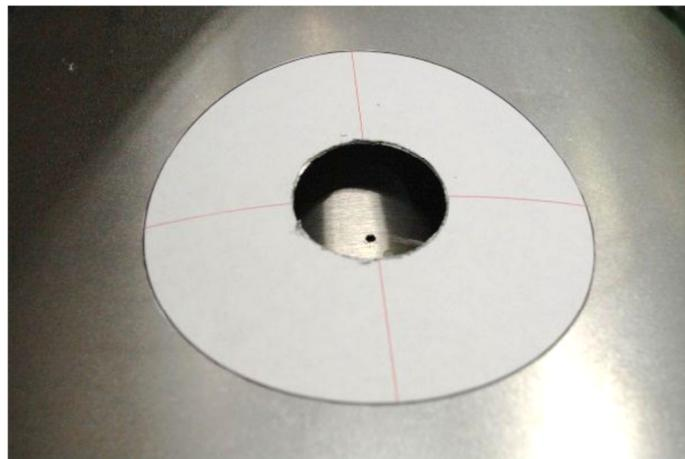

Figure 4: Result after Cutting the 2-1/8" Hole
5. Using the 2-1/8" hole-saw, follow the 1/8" hole with the pilot bit of the hole saw. Cut through the outer wall of the stack with slow speed and moderate pressure. Do not cut through the inner stack at this point. The stack should look like Figure 4 after this step.